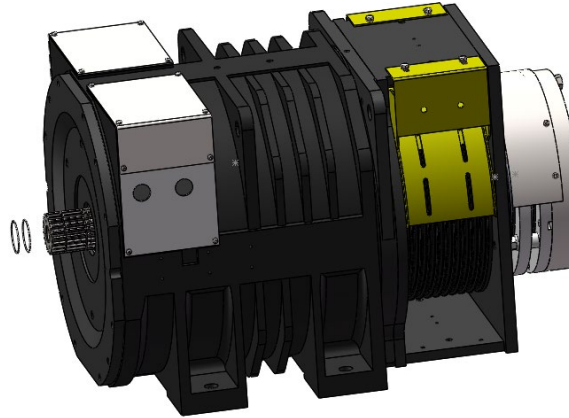

Figure 51 Install O-rings
2. Coat Vaseline on the new O-rings, then install them in the O-ring groove of the shaft. See Figure 51.